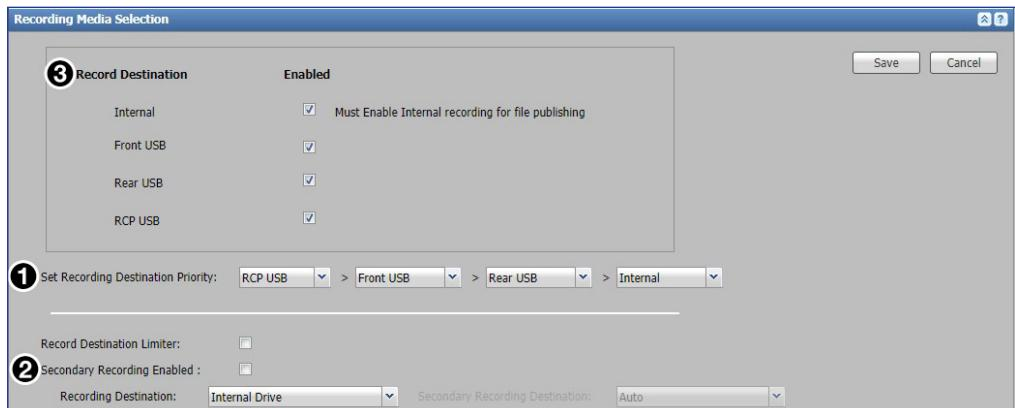

Figure 69. Recording Media Selection Panel
2. Use the drop-down lists in **Set Recording Destination Priority** (see figure 69, ①) to designate where the SMP stores a recording when **Auto** is selected as the recording destination or a recording destination is unavailable.
- The selection in the **Recording Destination:** field changes to **Internal Drive** (②). This cannot be changed in dual recording mode. The recording is always stored to the internal drive.
- The **Secondary Recording Destination:** drop-down list is enabled (③).
- If **Auto** is selected, the secondary recording destination is based upon the selections made in step 2 on page 90. Ensure **Internal** and the desired secondary recording destination are enabled (see figure 69, ③ on page 90).
- Optionally, limit users to the storage drive location selected in step 2 or the **Secondary Recording Destination** specified in step 4 (without the ability to change locations). To do so, select (check) the **Record Destination Limiter** checkbox (④).